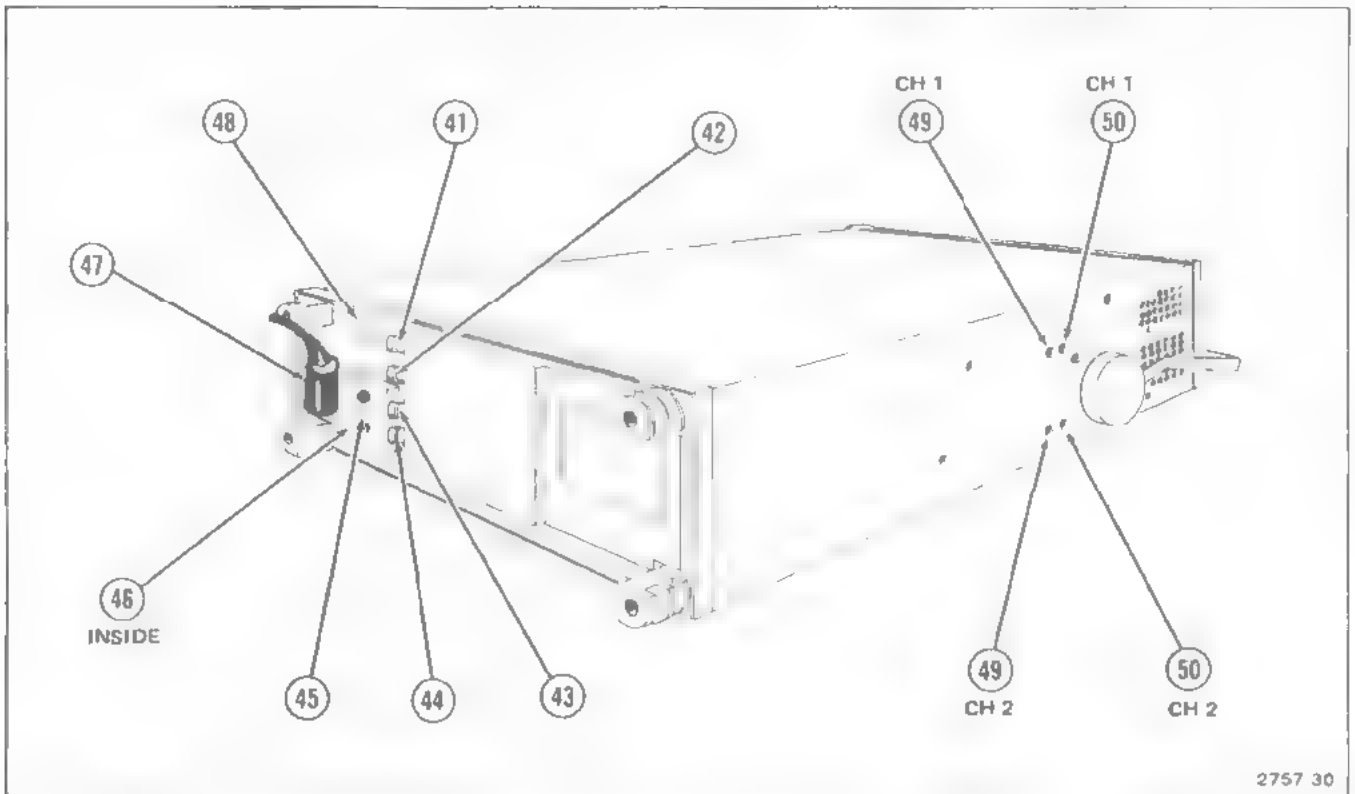

Figure 2-7. Rear panel and left side panel controls, connectors, and indicators.
Refer to Figure 2-7 for location of items 41 through 50